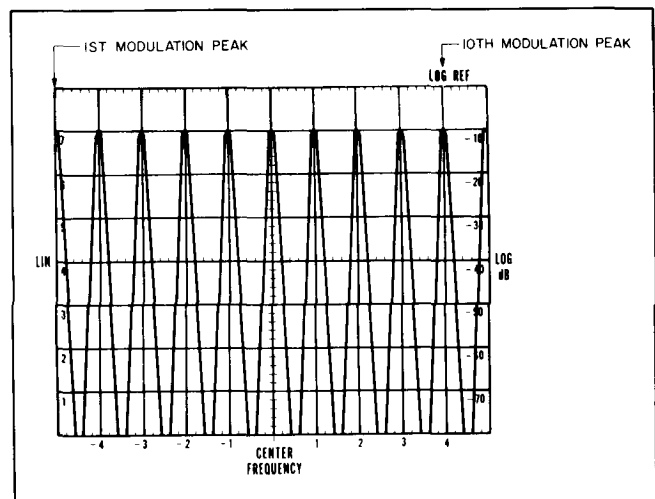

Figure 4-7. Scan Time Modulation Peaks
5. Adjust the audio oscillator modulation frequency to align the tenth modulation peak with the +4 graticule line (see Figure 4-7). Total scan time is read on the HP 5245L and should be 2.0 ± 0.2 ms.